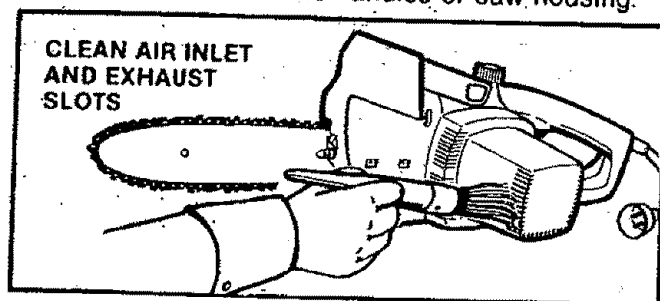

Figure 29
2. Use a small brush or the air discharge of a vacuum cleaner to clean debris and sawdust from the air inlet and exhaust slots on housing. Figure 29.